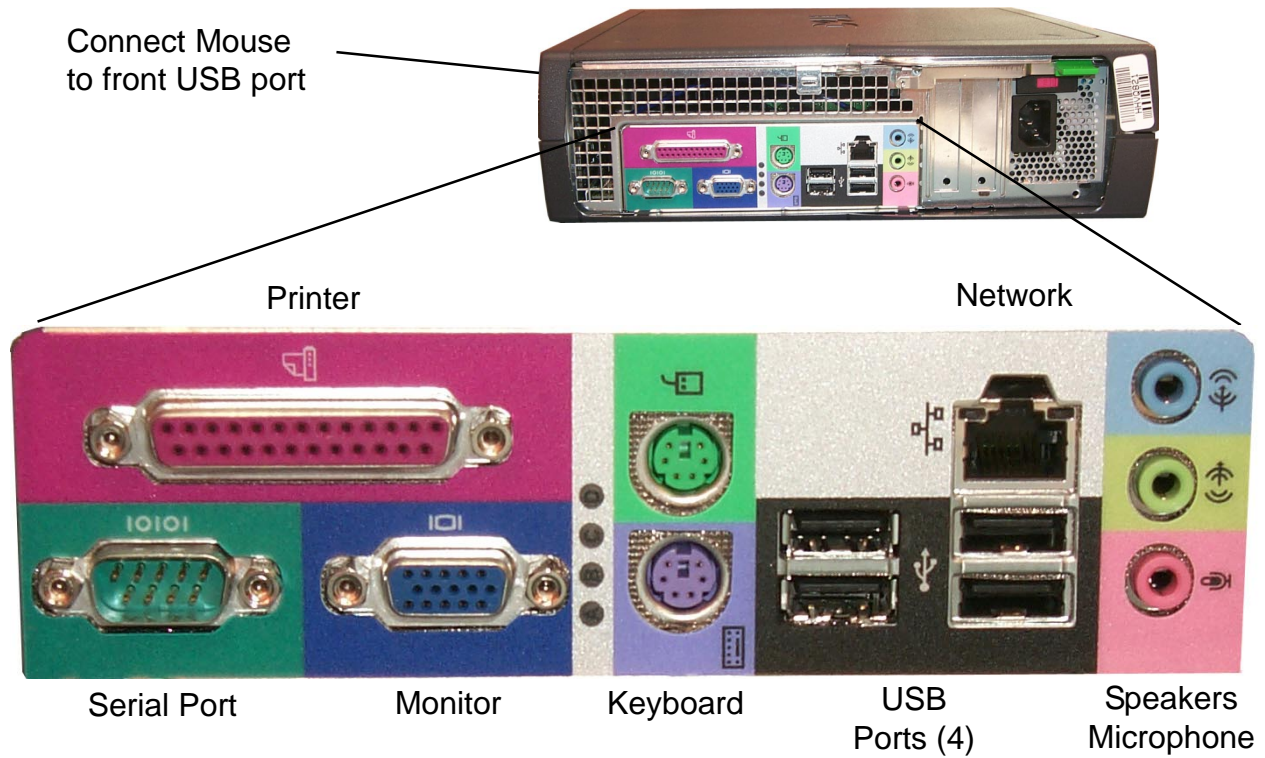
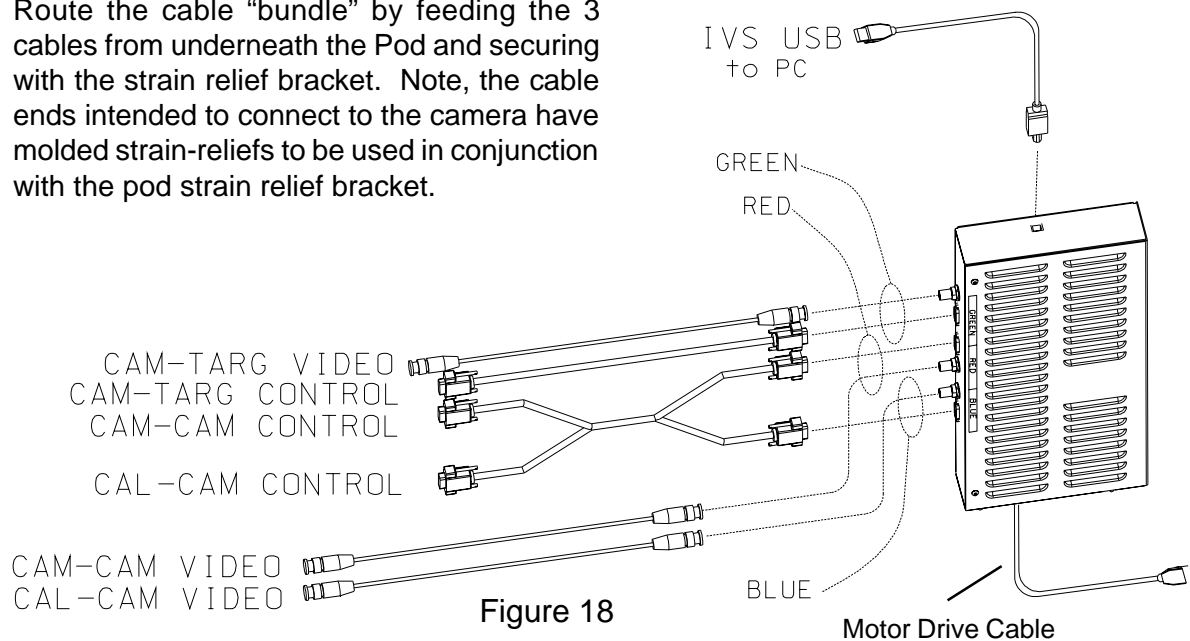

Figure 3 - Rear view of PC
Figure 18
2. After the cables have been secured, attach to the camera PCBs. The PCBs and cables are identified with color bands. Match the bands of the cables to the bands on the PCBs. Likewise the IVS interface box is labeled with color bands. The Left camera PCB is located on the outboard side of the Pod and is identified with a RED band. The Calibration Camera, marked with a BLUE band, uses the PCB on the inside location. Refer to the Illustration in Figure 18
3. Carefully connect cables from Left Camera Pod to the IVS BOX. Note the position of the color bands, match accordingly. Refer to Figure 18 for IVS detail.
3. Carefully connect cables from Camera Pods to the IVS BOX. The IVS interface box is labeled with color bands as is the camera pod PCBs. The Right camera PCB is identified with a green band, the left camera with red and the calibration camera; blue. Refer to Figure 18 for IVS detail.
4. Connect the IVS USB cable to the console PC USB receptacle. See Figure 3 on page 8 for PC connector detail and Figure 18.